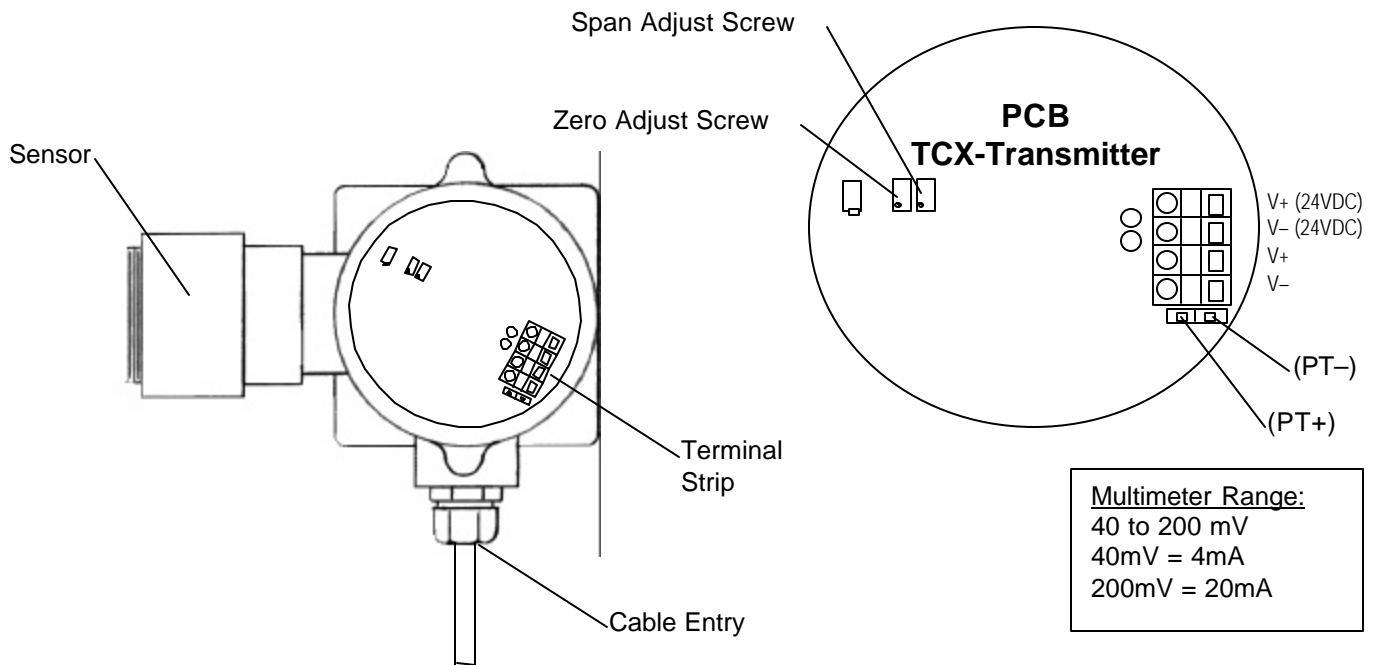

Figure 1: Sensor/Transmitter Module Diagram
Toxic Zero point adjustment is accomplished by exposing the sensor to clean, contaminant-free air for a few minutes. The signal may be measured, by a standard millivoltmeter located between (PT+) and (PT-) as shown in Figure 1.
3. Adjust the **SPAN ADJUST SCREW** (See Figure 1) until the correct reading across (PT+) and (PT-) is shown.